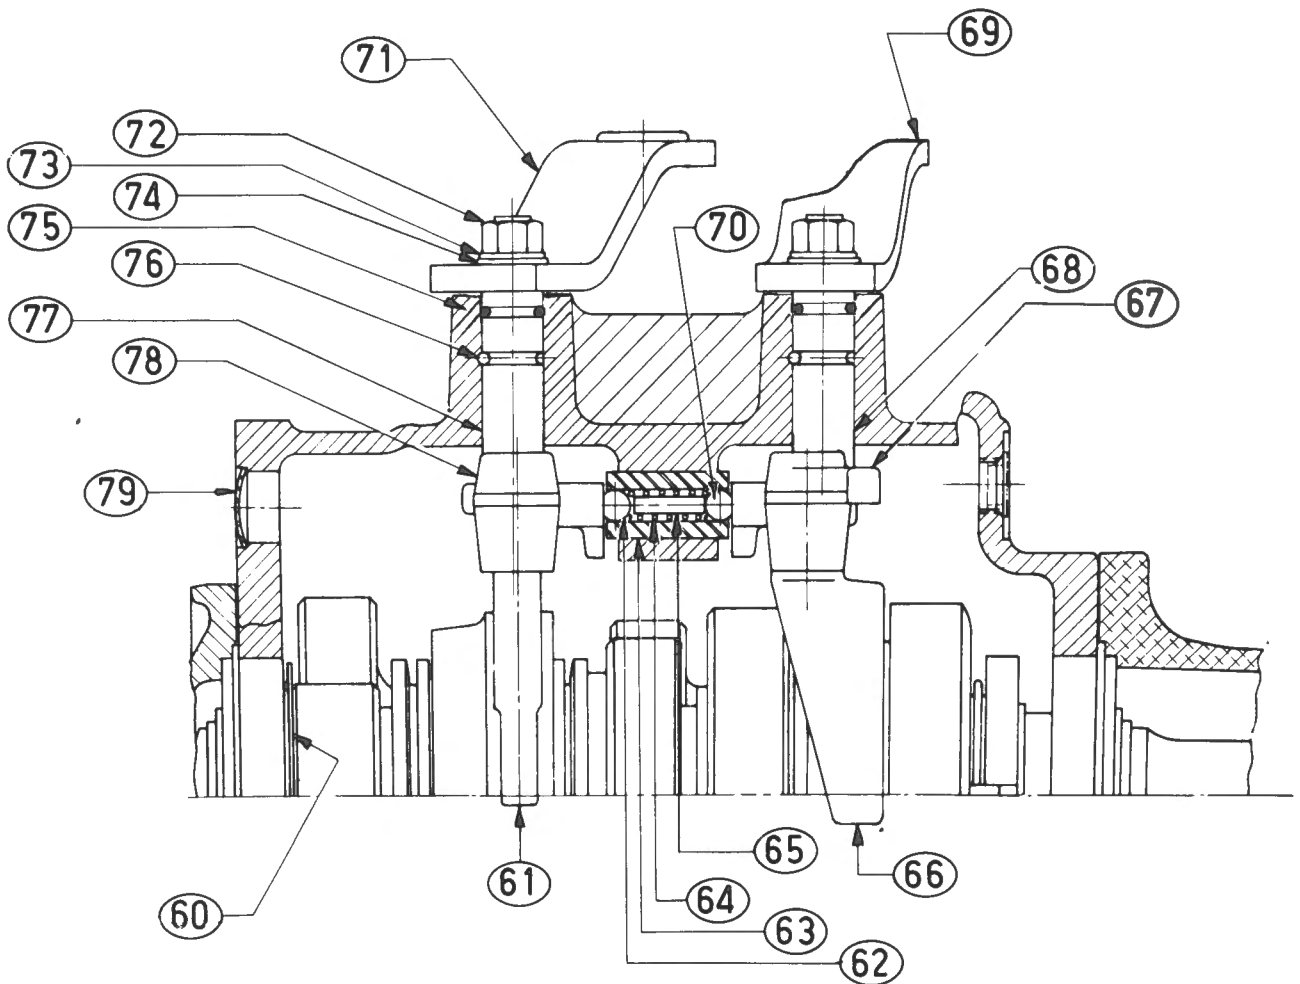

Fig. L-7
- 3 Remove the snap ring securing the speedometer drive gear and slide speedometer drive gear off the mainshaft. Remove speedometer gear drive ball from the mainshaft. Fig. L-7.